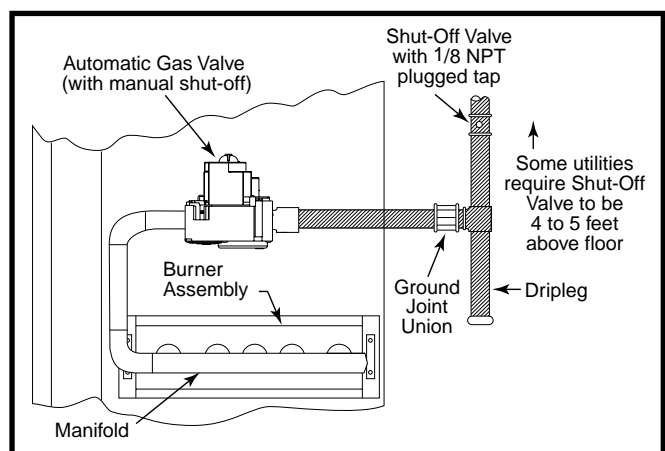

Figure 5. Typical Gas Hookup - Right Side Entry
- Some local codes require the installation of a manual main shut-off valve and ground joint union external to the unit. The shut-off valve should be readily accessible for service and/or emergency use. Consult the local utility or gas supplier for additional requirements regarding placement of the manual main gas shut-off. See Figure 5 (page 13).
- A drip leg should be installed in the vertical pipe run to the unit. See Figure 5.
This unit only has right side gas entry. When connecting the gas, provide clearance between the gas supply line and the entry hole in the unit's casing to avoid unwanted noise and/or damage to the unit. A typical gas service hookup is shown in Figure 5.